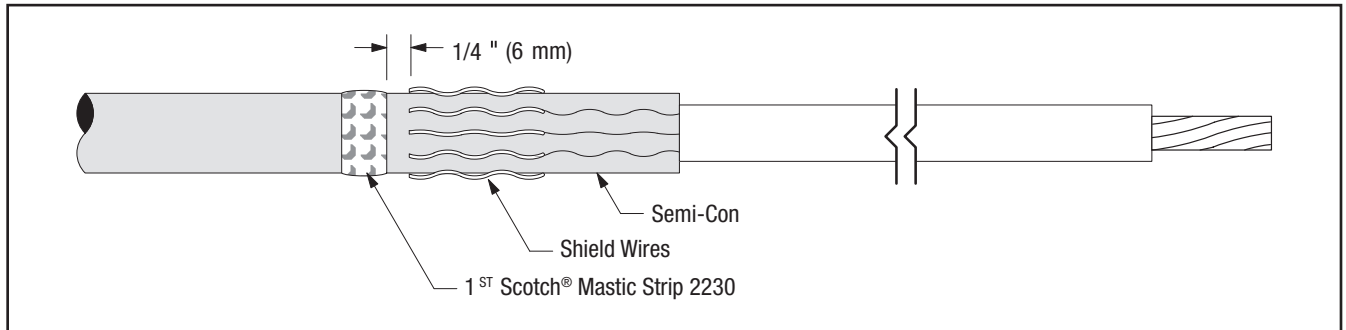

Figure 19
- 13.1 Select a Scotch® Mastic Strip 2230 from kit and remove white release liners. Using light tension, apply a single wrap of mastic around the cable semi-conductive jacket 1/4" (6 mm) from shield wires (*Figure 19*). Cut off excess.